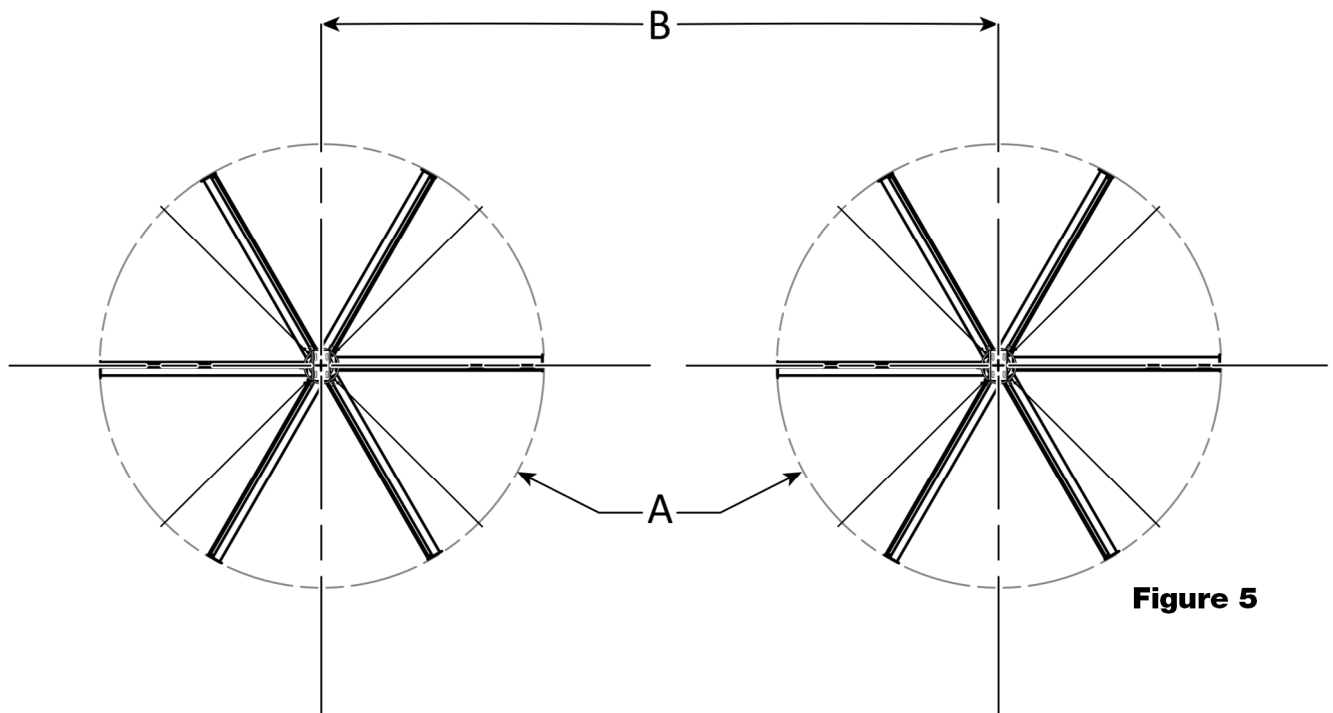

Figure 5
9. If installing multiple Fans, see **figure 5** for spacing required between Fans.